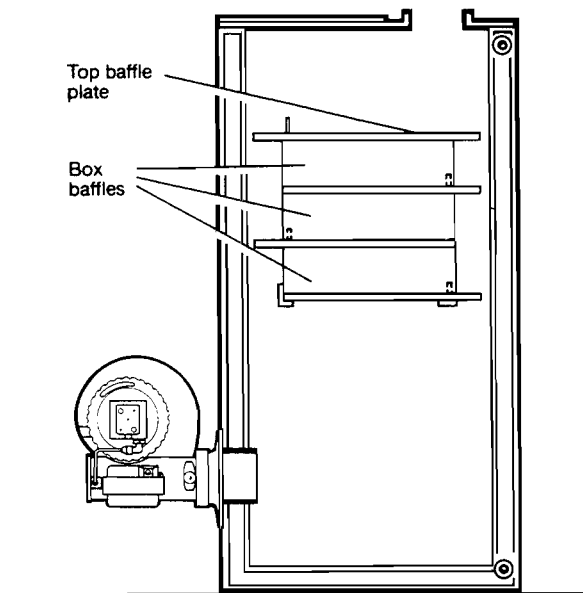

Fig. 4
6.2 Remove the boiler top cover and remove the packing from above the baffles. Check that the baffles are in position as shown in Fig. 4. Replace the top cover.